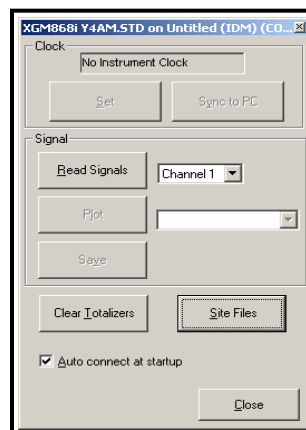

Figure 27: *Properties* Window
3. The *Properties* window appears similar to Figure 27. To clear the XGM868i totalizers, click on the [Clear Totalizers] button. The XGM868i totalizers are reset to 0.